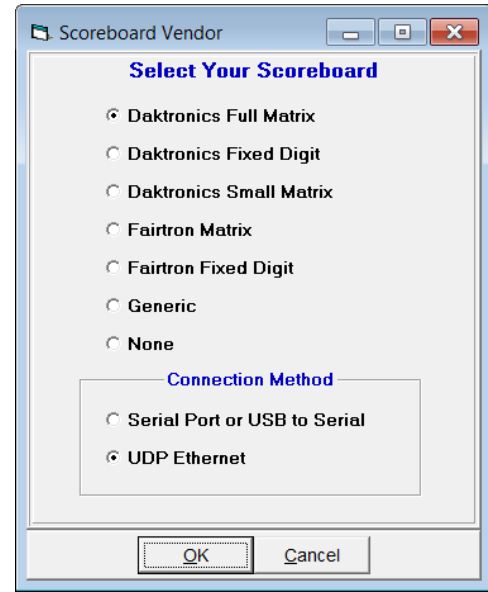

Figure 43: Scoreboard Vendor Selection
3. Go to **Interfaces > Set-up > Scoreboard (Figure 43)**.